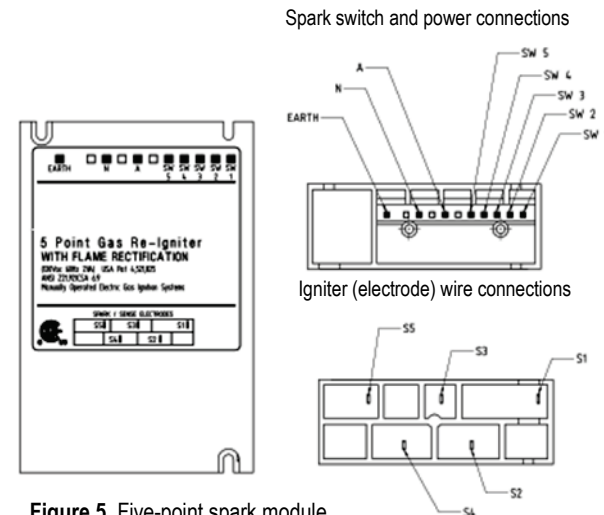

Figure 5 Five-point spark module
- ✓ Position hinges properly (see Figure 5).